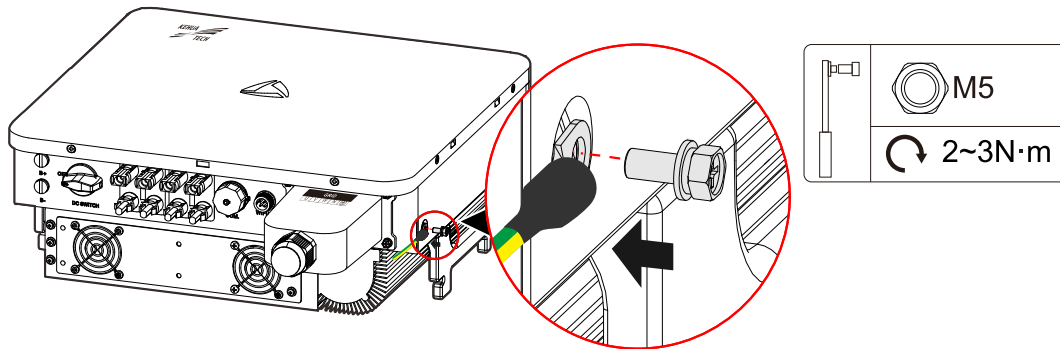

Figure3-14 External grounding connection
Step 2 Connect the crimped grounding wire to the external grounding terminal at the side of the inverter by equipped stainless steel combination bolt M5\*12, as shown in Figure3-14.